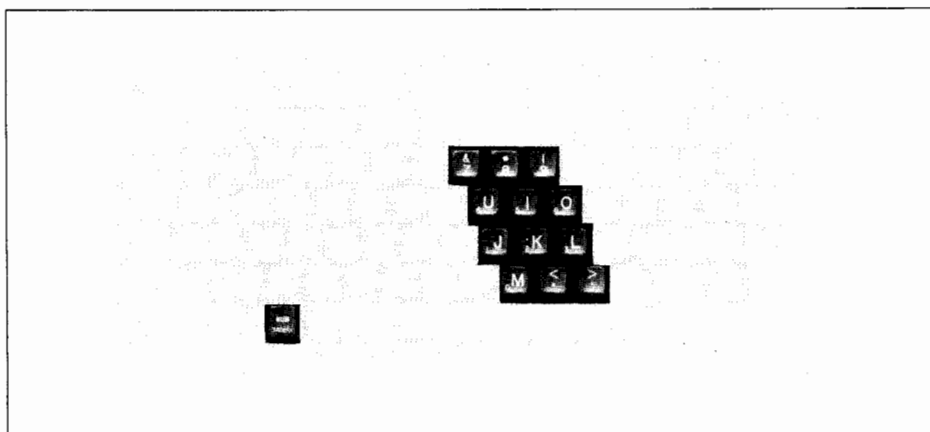

Figure 4-2. 2621B Standard Keyboard Numeric Pad Group
- **Numeric Pad Group.** This group is a calculator-type numeric key pad that is embedded into the character set keys (see Figure 4-2). You may use this pad for entering large amounts of numeric data such as that required for financial reporting.
This group of keys supplements the standard keyboard numeric keys. The numeric pad consists of 12 keys that are embedded into the Character Set Group, and a **NUM** key used to enable or disable the numeric pad. Figure 4-2 shows the location of the keys in the Numeric Pad Group.